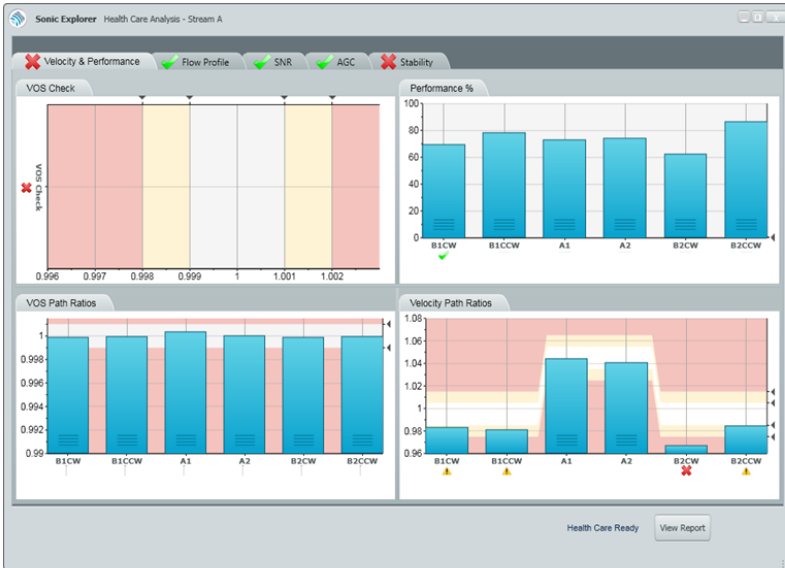

Figure 12-2 Health Velocity & Performance
- ✓ Another window with several tabs will open, as seen in Figure 12-2 will display five tabs, each with a variety of charts visualising essential analysis of the meter performance. On these graphs the limits are shown in yellow and warning values are shown in red.
This tab contains 4 graphs, as seen in Figure 12-2.